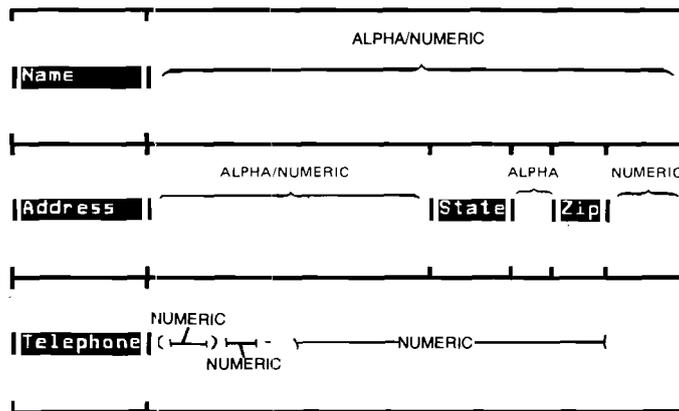

Figure A-7. Building a Form — Phase 3
- STEP 3. Move the cursor to the beginning of each of the remaining unprotected fields, and define each as ALPHA, NUMERIC, ALPHANUMERIC, or undefined, as applicable. (Figure A-7 shows the definition of each field.)